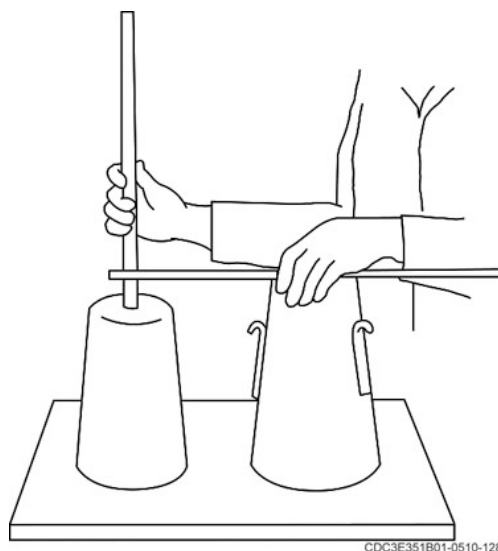

Figure 1-46. Measurement of slump.
Slump testing is a means of measuring the consistency of concrete using a slump cone (fig. 1-46). The cone is made of galvanized metal with an 8-inch diameter base, a 4-inch diameter top and a 12-inch height. A ⅝-inch by 24-inch tamping rod is also needed. The tamping rod should be smooth and bullet-pointed. **NOTE:** Do not use a piece of rebar.
5. Measure the slump immediately after removing the cone. You determine the slump by measuring the difference between the height of the cone and the height of the specimen (figure 1-46).